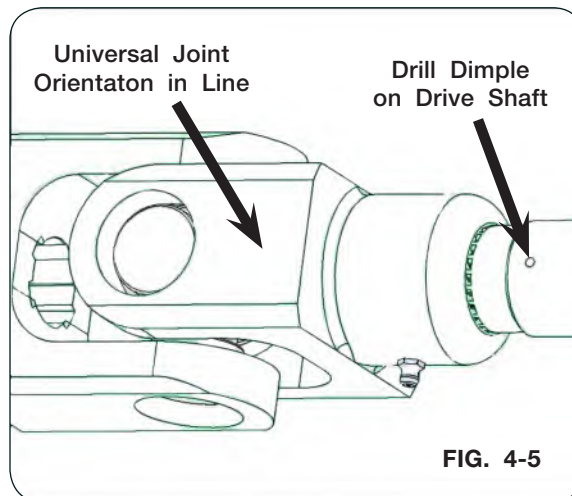

FIG. 4-5
13. With bearing mounting hardware completely tightened, drill a setscrew dimple in the driveshaft by going through the bearing setscrew threaded hole to dimple the drive-shaft being careful not to damage threads. Drill the dimple to a depth that setscrews are flush with the bearing prior to applying thread locker and installing setscrews. (FIG. 4-5)
14. For alignment of the yoke, the orientation of the universal joint at the gearbox must be in line with the driveshaft drill dimple when the driveline assembly is attached. (FIG. 4-5, 4-6, and 4-7)